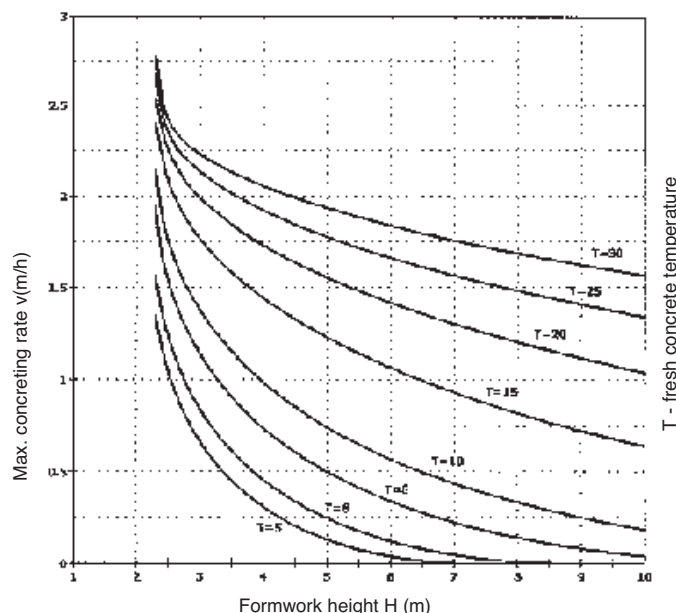

Fig. 9.5
- Fig. 9.5 is for column concrete casting rate (with the use of MIDI BOX formwork) and concrete without retarders.
1. For a 4 m high column cast in temperature of 10°C without retarders, the value of maximum concrete casing rate read on Fig. 9.5 is 1 m/h. In order to obtain an average rate across the whole height of formwork concrete should be cast in 1 m thick layers every one hour or in 50 cm thick layers every 0.5 hour. In the extreme case the layer may be 0.2 cm thick but casting may be continued after 2 hours.